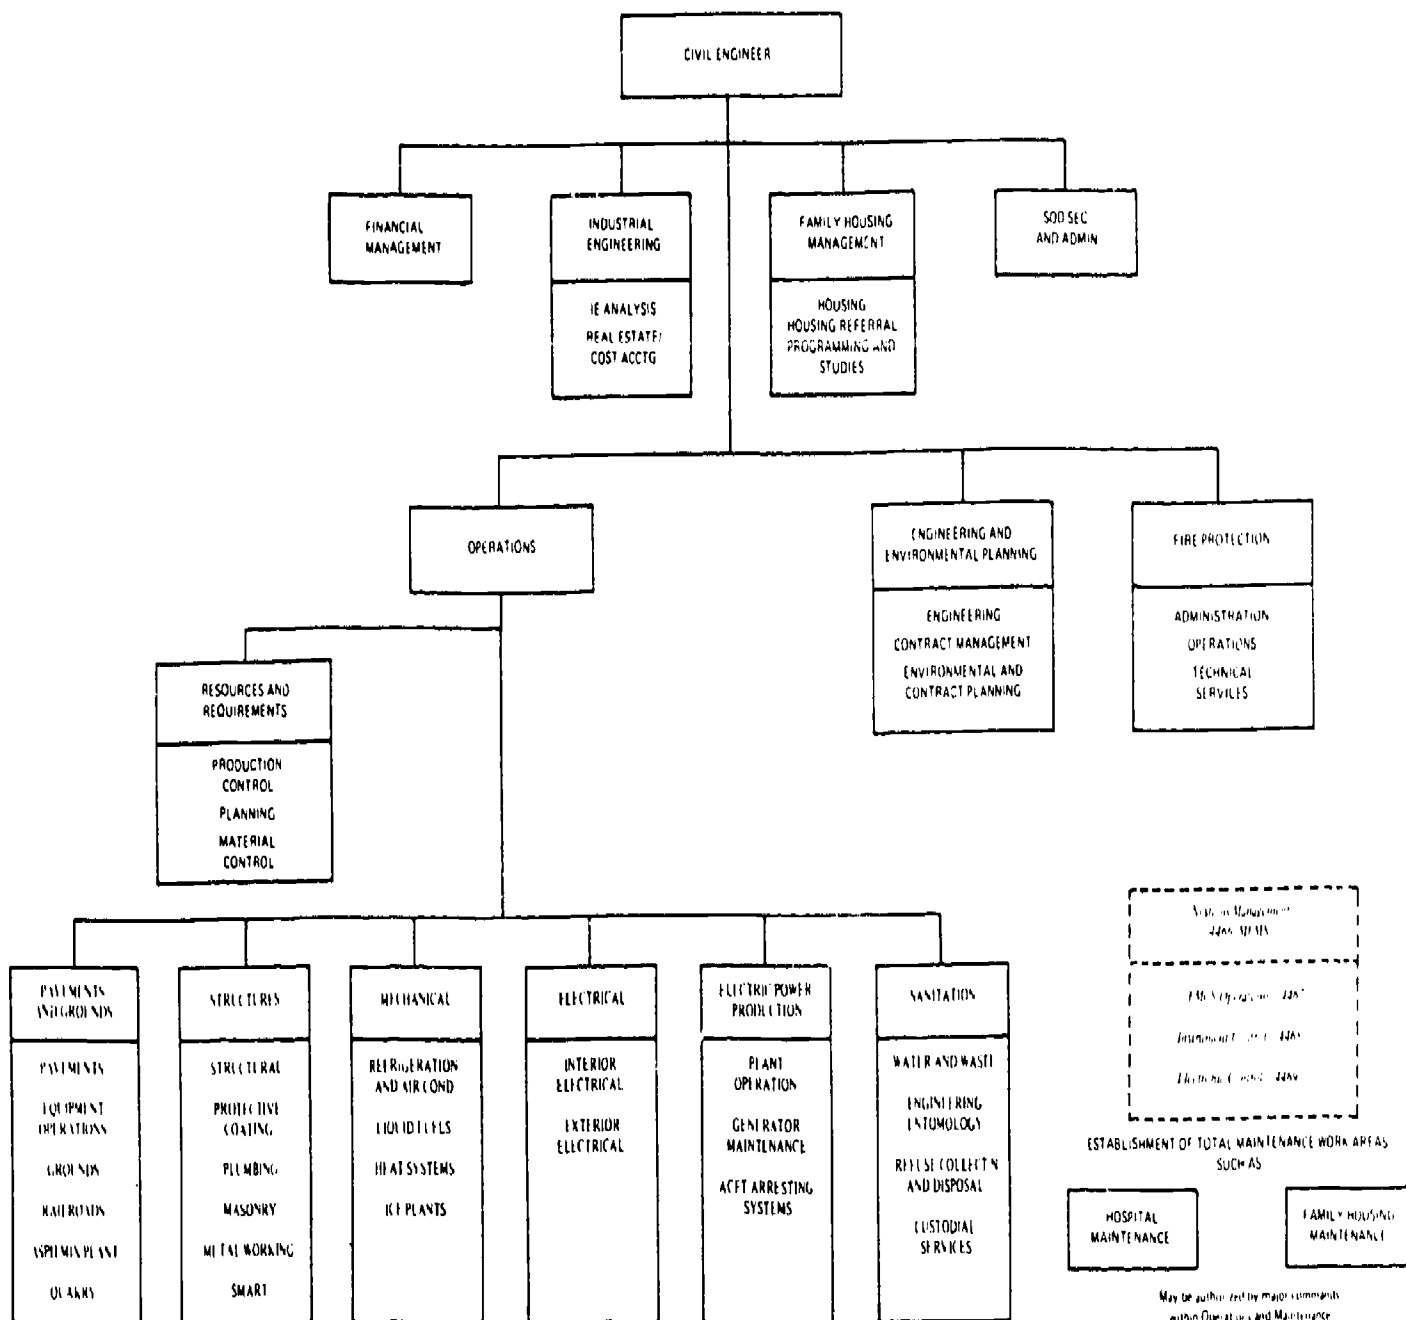

Figure 1-1. Civil engineer organization.
**Civil Engineer Organization Chart.** Figure 1-1, Base Civil Engineer Organization Chart, shows the structure of CE. Study the chart in order to learn the level of command throughout the organization. At the very top of the chart is the base civil engineer. The BCE ultimately is responsible for CE mission accomplishment.
As President Truman said, "The buck stops here." Passing the buck in CE will eventually stop at the BCE. You well know that Air Force personnel should go through the chain of command. If you skip a link in the chain, things start to go wrong. As the saying goes, a chain is no stronger than its weakest link. The lines on the chart represent the chain in the CE structure. Each block represents an office, shop, or unit in which a manager or supervisor is in control. Find the metal working block on the chart. The chain of command line for all units in this block goes through the structural superintendent. From operations, the command line goes up the chain to the civil engineer. As you can see from figure 1-1, the BCE holds the chief of operations responsible for all the CE shops. Resources and Requirements is not in a direct command line to the structural shop. It works in a staff function to help the operations chief. From the example above, you should be able to trace the command line through the various units. Let's see if you can.
Refer to figure 1-1 and name the command block immediately above each of these CE units.
**Functions and Responsibilities of CE Units.** As we look into these individual sections, refer to figure 1-1 as frequently as necessary to understand their mutual relationships.
**Industrial engineering analysis (IE).** This unit serves as a general evaluation and advisory group. The unit evaluates work performed by all CE personnel. IE personnel inspect facilities, equipment, programs, and procedures. They identify deficiencies and recommend corrective action. If the size of the base warrants an automated system, the industrial engineering section implements it, monitors and interprets the results, and uses the information to advise the BCE.